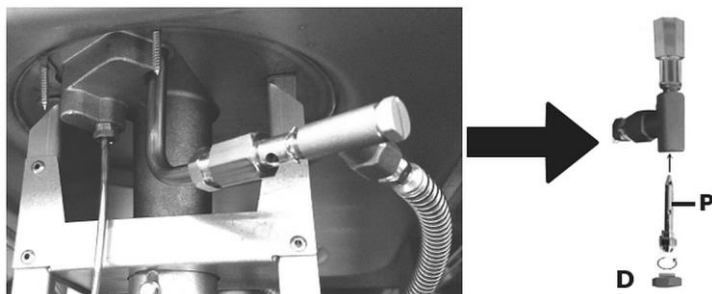

Fig. 9
3. Unscrew the fixing nut **D** (Fig. 9).